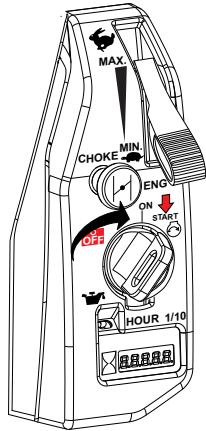

Figure 15. Engine ON/OFF Switch (Start)
- Place the ignition key (Figure 15) in the **START** position and hold it until the engine starts. When the engine starts, release the key, allowing it to return back to the **ON** position.